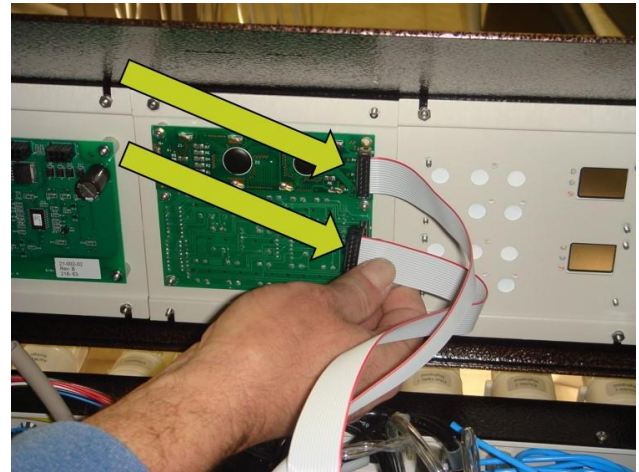

Fig. 7
15. If necessary, disconnect ribbon cables from the display board to assist in relocating board plate. (Fig. 7)